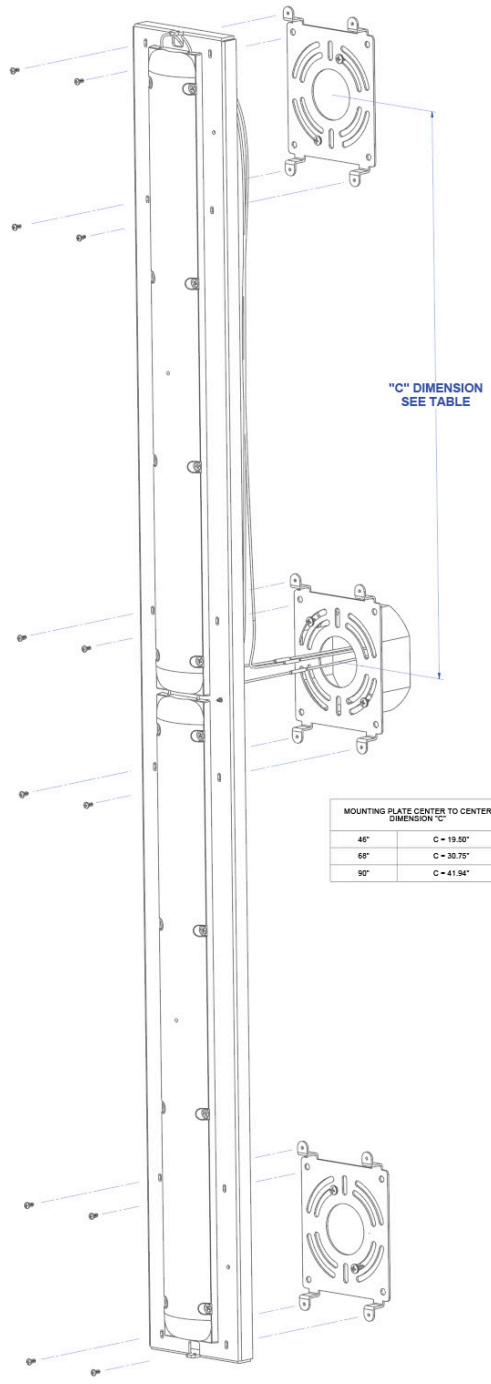

FIGURE 1:
2. **FOR 46", 69", 90" SCONCES:** INSTALL AC DIRECT MODULE TO THE MOUNTING PLATE RUNNING THE WIRES THROUGH THE HOLE AT THE TOP OF THE PLATE. MAKE ELECTRICAL CONNECTION IN THE JUNCTION BOX (SEE FIGURE 1). JUNCTION BOX CAN BE LOCATED ANYWHERE BEHIND THE FIXTURE (SEE FIGURE 2). THEN, SCREW THE MODULE AND MOUNTING PLATE TO THE BRACKET CONNECTED TO THE JUNCTION BOX WITH THE 4 SCREWS PROVIDED.